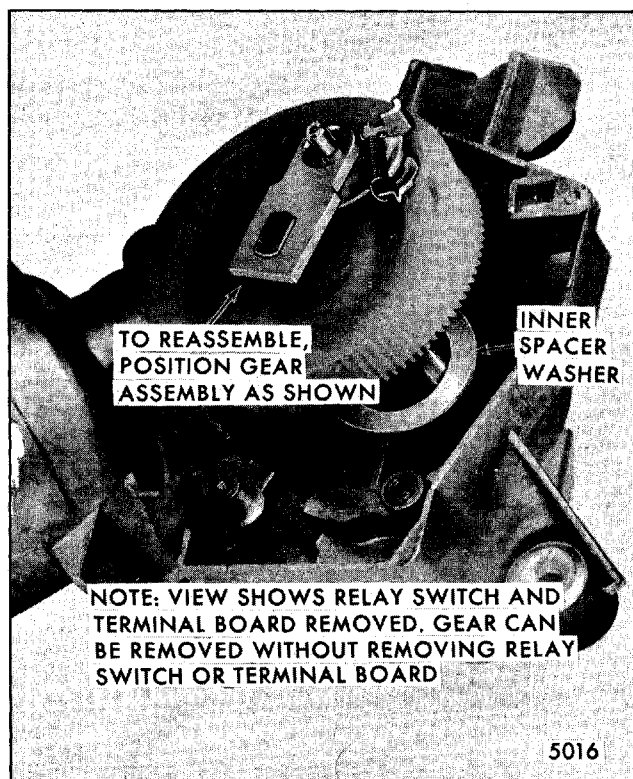

Fig. 2-114-Removing Gear
2. Slide gear assembly out of housing (Fig. 2-114).
5. Assemble inner spacer washer over the gear tube and reassemble gear mechanism in gearbox (Fig. 2-114).